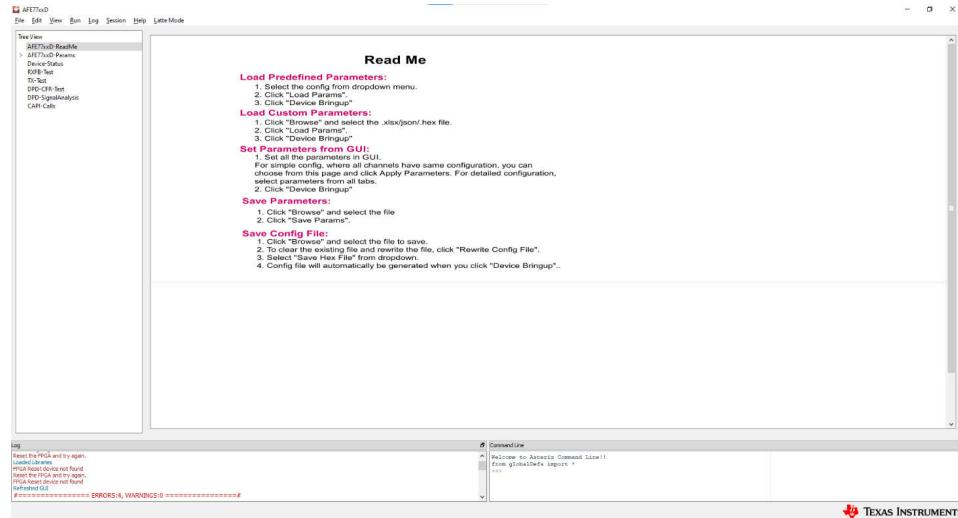

Figure 3-4. ReadMe AFE77xxD Latte Software
2. Wait until the GUI loads. It will look like Figure 3-4.